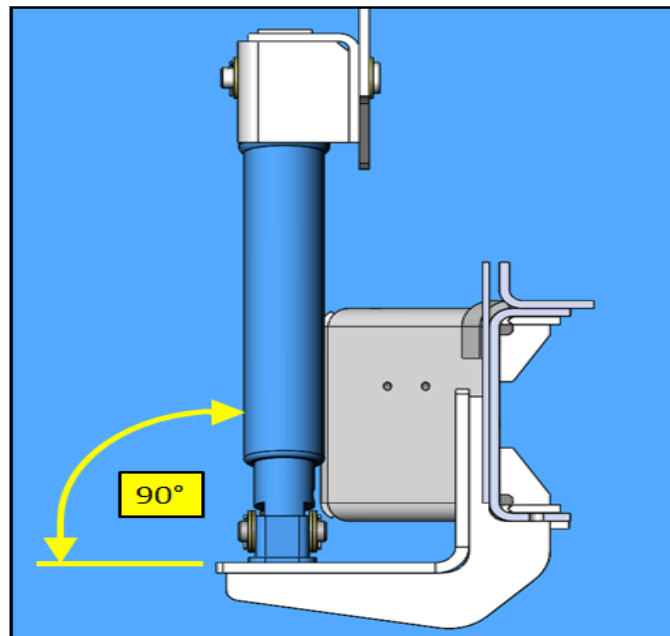

FIG. 11-2
- 18. Slide the lower mount foot laterally so that the lift cylinder is set to 90 degrees. Refer to FIG. 11-2.